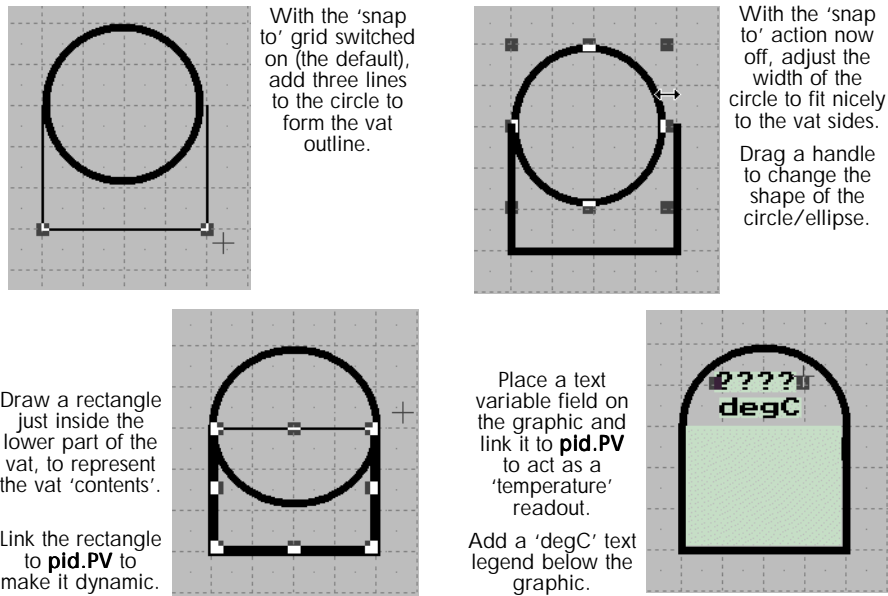

Figure 7-4 Drawing the 'vat'
- 5 Now select the **Line** tool  and draw a vertical line 3 grid squares high, to form the left side of the vat. Repeat for the other side of the vat, then draw the base of length 4 grid squares. Figure 7-4 shows some stages in the drawing of the 'vat'.
- 1 Select the **Rectangle** tool  and draw a rectangle to lie just inside the lower part of the vat graphic, see Figure 7-4. Click the **Selection** tool then right-click the rectangle and select **Properties....**
- 5 If necessary, nudge the elements of the 'vat' graphic into their correct positions, see Figure 7-4. Drag a box around the graphics to select them all, then click the **Group** button  to combine them into a single object. Drag the 'vat' to near the top centre of the screen.